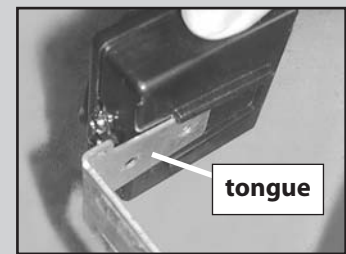

FIG. 3-3 Attaching STB's to brackets. (See directions on next page and Figure 3-4 before attaching.)
- Slide source/sensor onto tongue of bracket until it clicks into place (Fig. 3-3).